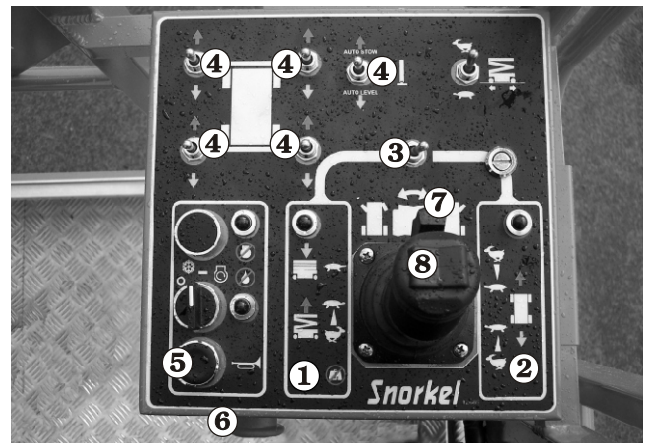

Figure 7.28 - Platform Controls
Check all of the lift, drive **2**, steer **3**, and stabiliser **4** functions from the platform control box to see that they cause the S3370RT / S2770RT to move the way it should (see Figure 7.28). (for correct operating procedures see the Operation chapter).
Press the operator horn **5** (see Figure 7.28) to see that it works.
Pay particular attention to the **Emergency Stop** switch **6** to see that it turns the engine off when struck (see Figure 7.28).
Pay particular attention to the **Safety Control ⑦** to see that it deactivates the **Joystick Controller ⑧** when the safety control ⑦ is released (see Figure 7.28).